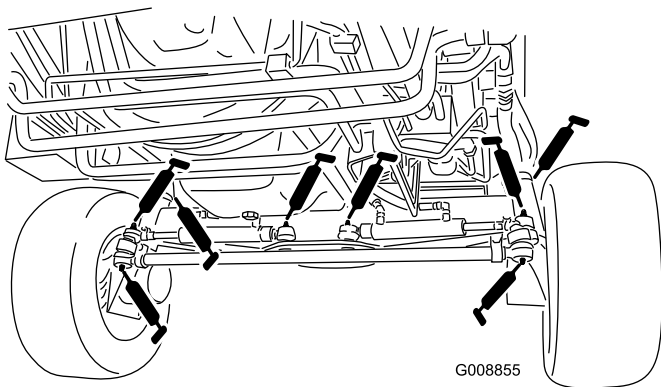

Figure 49
- 4 steering-cylinder-ball joints (Figure 49)
- 2 tie-rod-ball joints (Figure 49)
- 2 king-pin bushings (Figure 49)